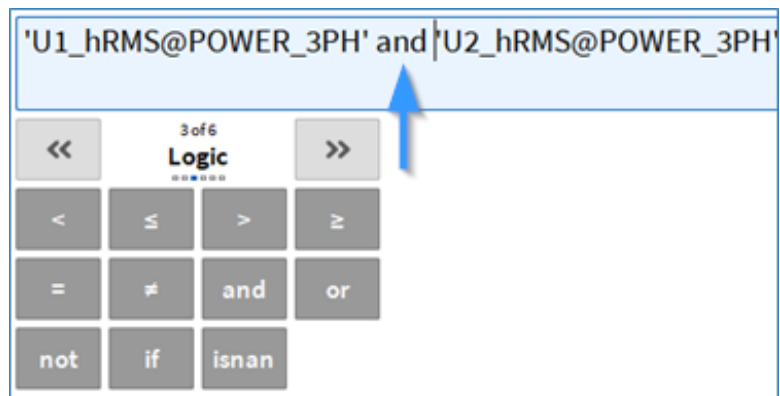

Fig. 7.73: Logic operators in combination with array channels
- Logic operators (see Fig. 7.73)